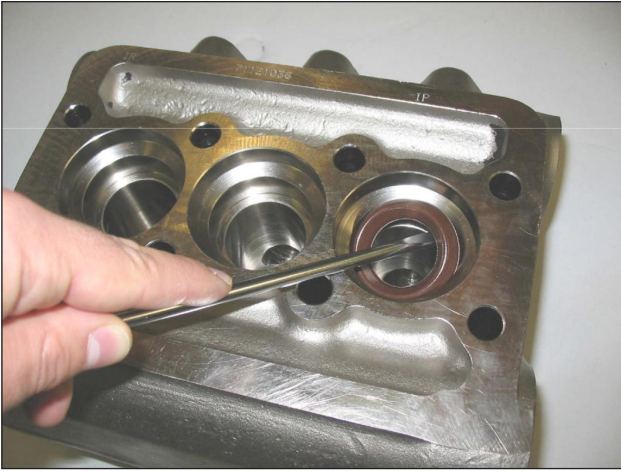

Fig. 21
C) Extract the high pressure seals from the head and the low pressure ones from the support, using simple tools as indicated in Fig. 21, being careful not to damage the respective housings.